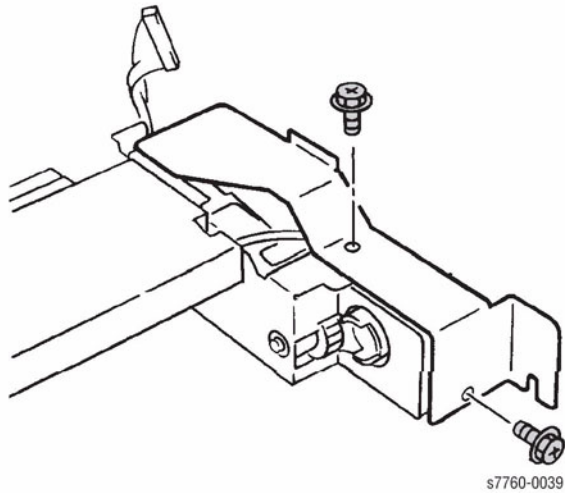

Figure 2 Removing Tray 4 Feeder from Bracket
6. Remove Tray 4 Feeder from the Mounting Bracket (Figure 2).